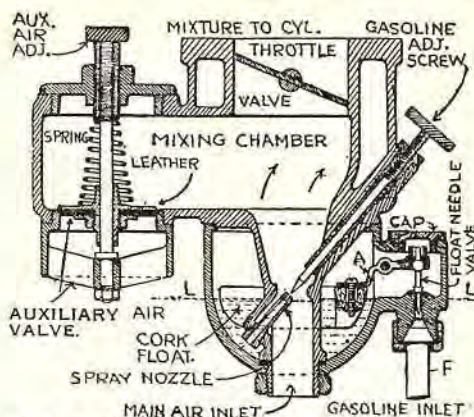

Fig. 5. Typical example of a carburetor using an auxiliary air valve.
Adjustable auxiliary air valve: The difficulty arising from the fact that the coil spring which held the auxiliary air valve closed at low speeds and was intended to open as the speed of the engine increased did not always function, because temperature changes would affect its sensitiveness and because the variations in the volatility of gasoline varied when cold and when warm, was overcome in a way by changing the adjustment of the tension on the auxiliary air-valve spring which was provided as shown in Fig. 5.
The **concentric-float type** of carburetor is the term applied to a carburetor where the float surrounds the mixing chamber and spray nozzle, as in Fig. 5. This makes a compact carburetor and maintains a constant gasoline level in the spray nozzle regardless of the angle at which the engine may be. On almost all concentric-type carburetors the float is made of cork.
Floats are usually made of light brass or copper in various hollow forms; the joints, if any, being carefully soldered or brazed, so that gasoline cannot enter the float itself. Floats are also made of cork, well shellacked, so that they will not absorb gasoline and lose their buoyancy. (See Fig. 5.)
Note that in Fig. 5 the float needle valve is to one side of the float. A glance will show how the float needle valve would be caused to open when the float drops below its level (L) and how it would cause the float needle valve to close when at the proper level. Adjustment of the height of the float can be made by slightly bending the arm (A) (Fig. 5).
Another method is to close the main air inlet (Fig. 5), which is termed "choking" or "strangling" the carburetor, while the engine is being cranked. The fact that the air is shut off causes an increase of gasoline to be drawn in for the initial charge.
Remedy: By working the float needle valve up and down in its seat, which can be done by means of the rod above the carburetor float chamber (Fig. 6), or by unscrewing the cap (Fig. 5), the grit will very likely be removed. If this does not remedy the dripping, then the float should be readjusted, or possibly a new float needle valve is required.
The gasoline needle valve controls the flow of the gasoline to the spray nozzle, and the correct adjustment of it is necessary for the operation of the carburetor. It is also called the "gasoline adjusting screw" (see Fig. 5). Don't confuse this needle valve with the "float needle valve."
1. Hand operated, as in Fig. 5.
The auxiliary air valve is controlled automatically by the vacuum created by the engine piston, which draws air through the auxiliary air intake against a spring tension; for instance, see the auxiliary air intake in the carburetor shown in Fig. 5, page 97, the opening being controlled by the tension of a spring.
The air-valve spring: The weaker the spring the less vacuum it will take to draw the valve open, and it may be adjusted by means of a threaded sleeve (as in Fig. 5 and in various other ways).